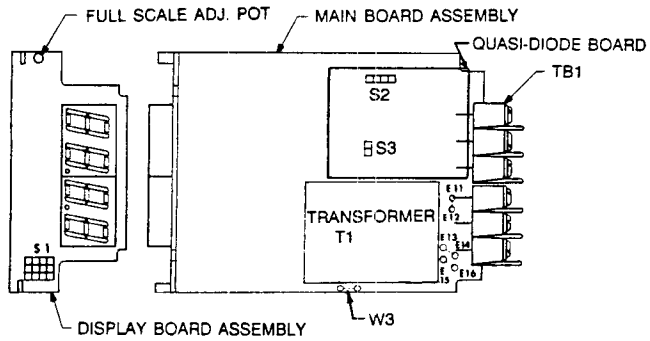

Figure 5-3 Main Board Assembly
3. Observe Figure 5-3 Carefully lift the printed circuit board assembly out of the case. (Grasp it by the edges of the display board.) Place it on the bench, being careful not to damage anything.
5. Solder a jumper connecting the holes marked W3 on the Main Board Assembly. Refer to Figure 5-3 for the location. (The "W3" designation is somewhat hidden under the transformer.)